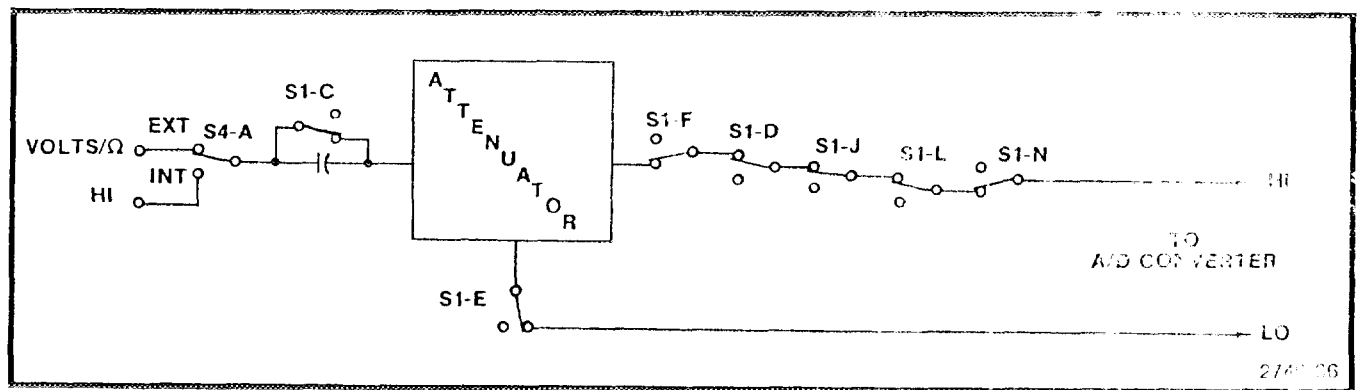

Fig. 3-1. Dc volts switching.
The internal-external (INT-EXT) front-panel switch (S4-A and S4-B, see Fig. 3-1) is used to select either front-panel inputs or rear-interface inputs. In all functions except temperature, the LOW input connects to the main board floating ground (LO) through switches S4-A and S1-M.